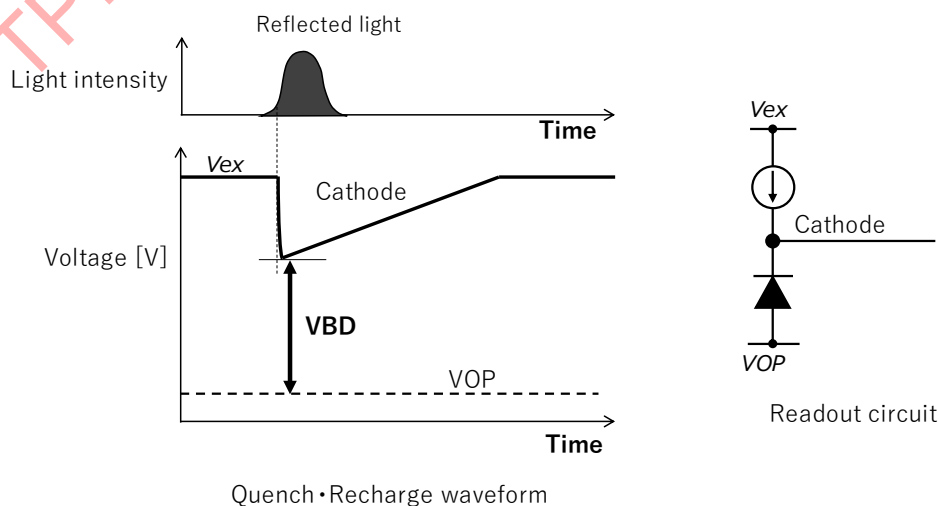

Fig. 15-1 SPAD quench recharge waveform and readout circuit
*3 Breakdown voltage (VBD) means the avalanche voltage of SPAD, and is defined as the difference between the bottom level of the cathode and VOP when SPAD reacts, as shown in Fig. 15-1